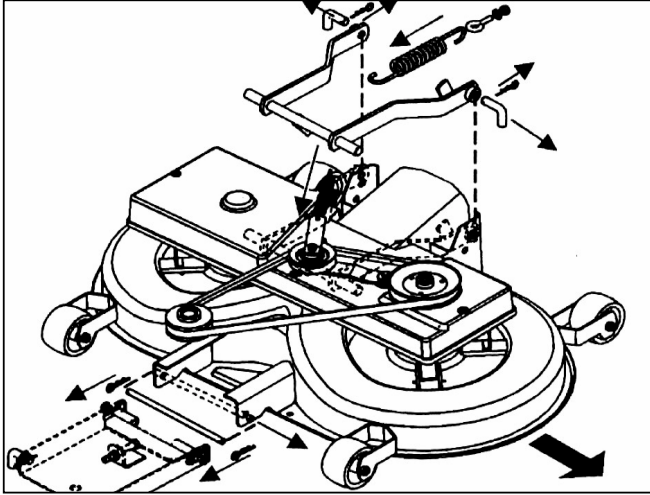

Fig. 35
A. CUTTING PAN REMOVAL (Fig.35)